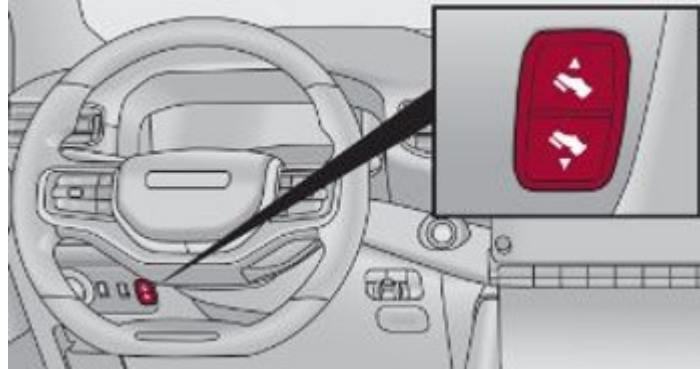

Fig. 1
1. Verify if the adjustable brake pedal is functioning by pressing the activation button (Fig. 1) .